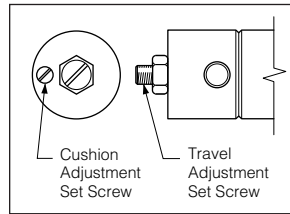

Figure 1
1. Back off 9/16" lock nut on 3/8" dia. set screw as shown in Figure 1.
**NOTE A:** Again left side paddle cushioning is affected by the right side air cylinder cushion set screw (3/16" dia.) and vice versa as shown in Figure 1.